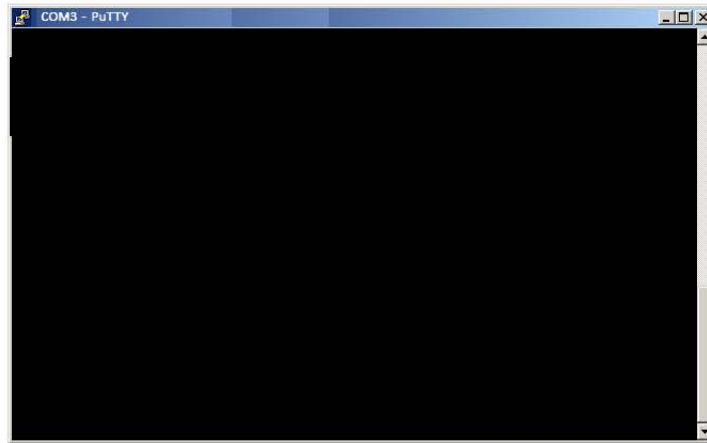

Figure 38. PuTTY Terminal Window
- e. After clicking the **Open** button, the terminal window opens in which you enter desired commands (see Figure 38).